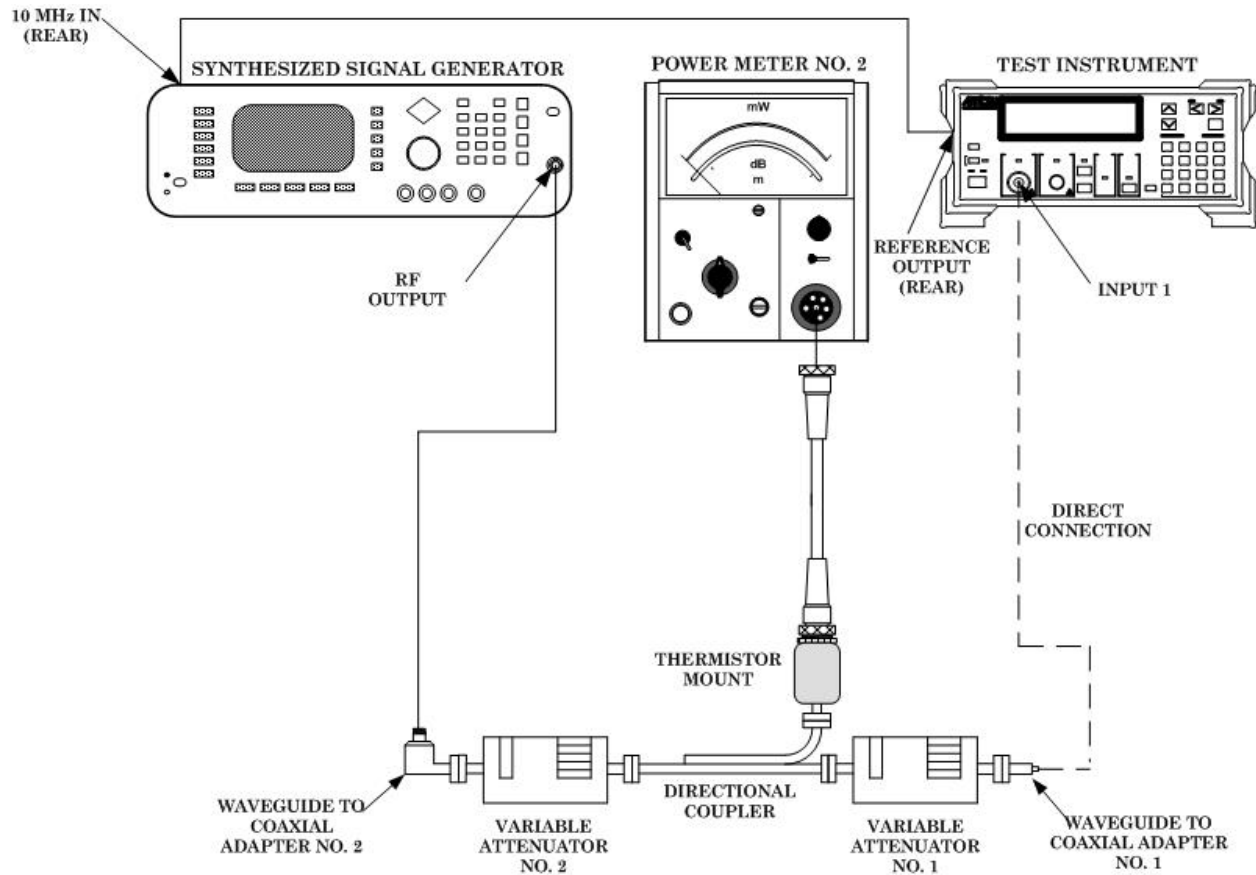

Figure 5. Sensitivity test (26.5 to 40 GHz) - equipment setup.
- (1) Connect equipment as shown in figure 5.
- (2) Set variable attenuator no. 1 to 0 dB.
- (3) Adjust synthesized signal generator frequency to 26.5 GHz.
- (4) Adjust synthesized signal generator RF output controls and variable attenuator no. 2 controls for a power meter no. 2 indication of -10 dBm.
- (5) Slowly increase variable attenuator no. 1 attenuation until TI loses stable count.
- (6) Slowly decrease variable attenuator no. 1 attenuation until TI just begins to indicate a stable count.
- (7) Add directional coupler actual coupling factor from correction chart to power meter no. 2 indication and record sum.
- (8) Subtract 0.5 dB (waveguide to coaxial adapter insertion loss (max)) from variable attenuator no. 1 corrected value and record difference.
- (9) Subtract difference recorded in (8) above from sum recorded in (7) above. If the difference is not at least the minimum value listed in table 11, prepare a test report and record actual sensitivity value for test frequency.
- (10) Repeat technique of (2) through (9) above for the remaining frequencies listed in table 11.